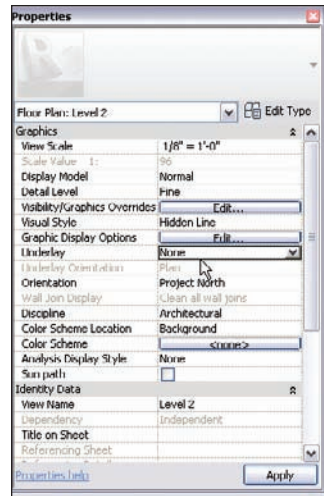

FIGURE 4.53 Switch Underlay from Level 1 to None.
5. In the Properties dialog, set Underlay to None, as shown in Figure 4.53.